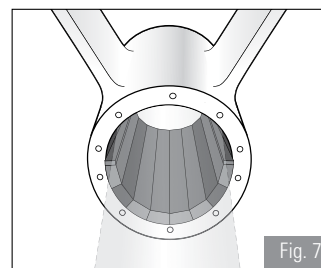

Fig. 7
4. Insert staves in lower half of housing (per drawing) starting with the bottom and working up to 9 and 3 o'clock positions. Insert plastic shims (supplied with bearings) between the rubber locking staves and propeller shaft. This will hold rubber locking staves against the housing until bearing is secured (see Fig. 7).